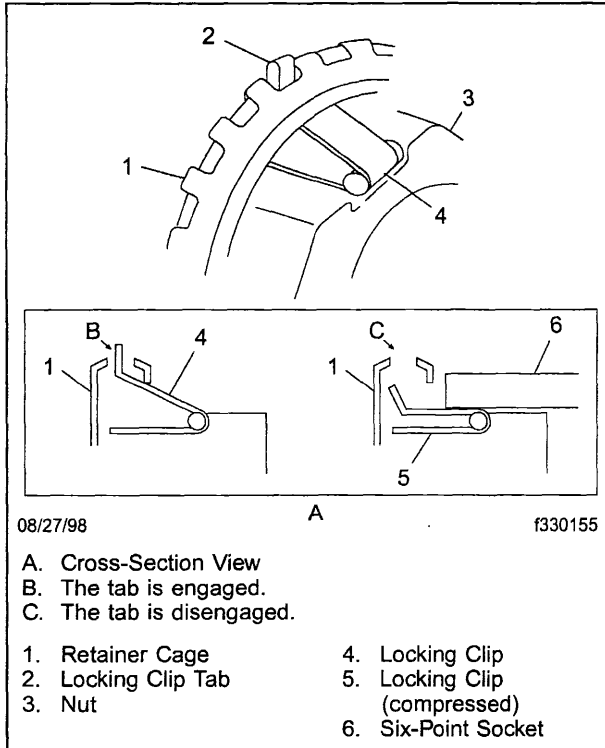

Fig. 5, Axilok Nut, Checking the Position of the Locking Clip
- Always start an Axilok installation by hand. A good-fitting 6-point socket will completely disengage the nut's locking clips, allowing it to spin freely by hand. See **Fig. 5**. Use an accurately calibrated torque wrench to tighten the nut to its final torque value.
- After the nut is installed, always make sure that both locking clips are present and engaged in the retainer cage. See **Fig. 5**. If the locking clips are not engaged, the nut is not locked in position and can rotate freely.
- ### 3. The nut should lock in place when you remove the wrench. If it does not, advance it until it does. See **Fig. 5**.